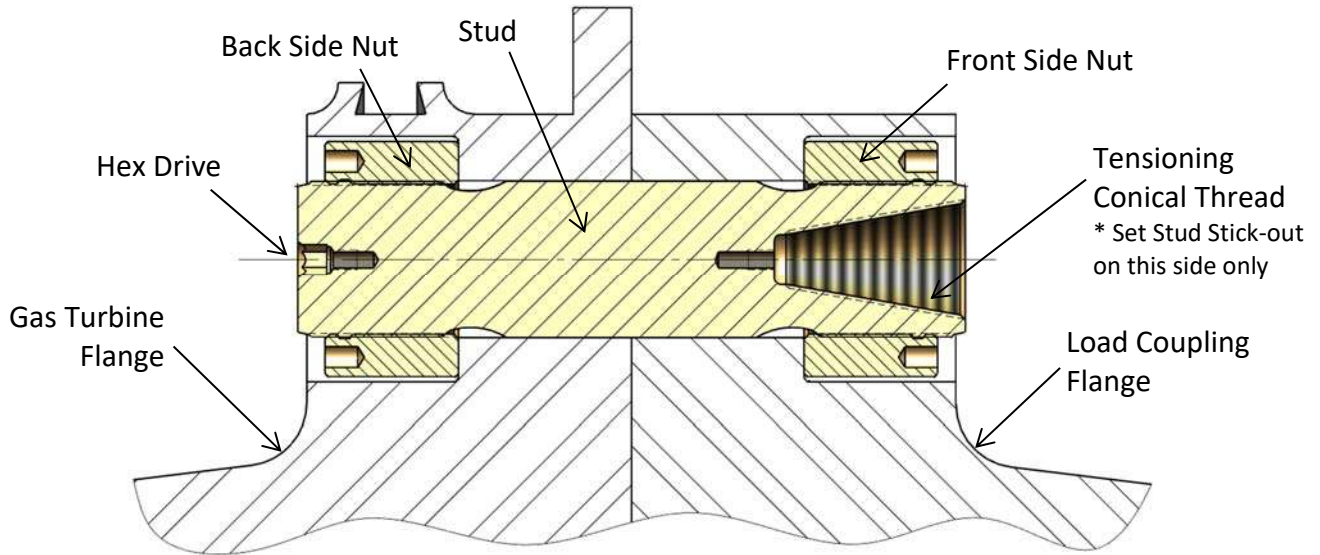

Figure 6A – Cross-section View of Gas Turbine to Load Coupling Bolted Flange Connection
4. Slide the stud, and nut into the flange as shown in Figures 6A and 6B.